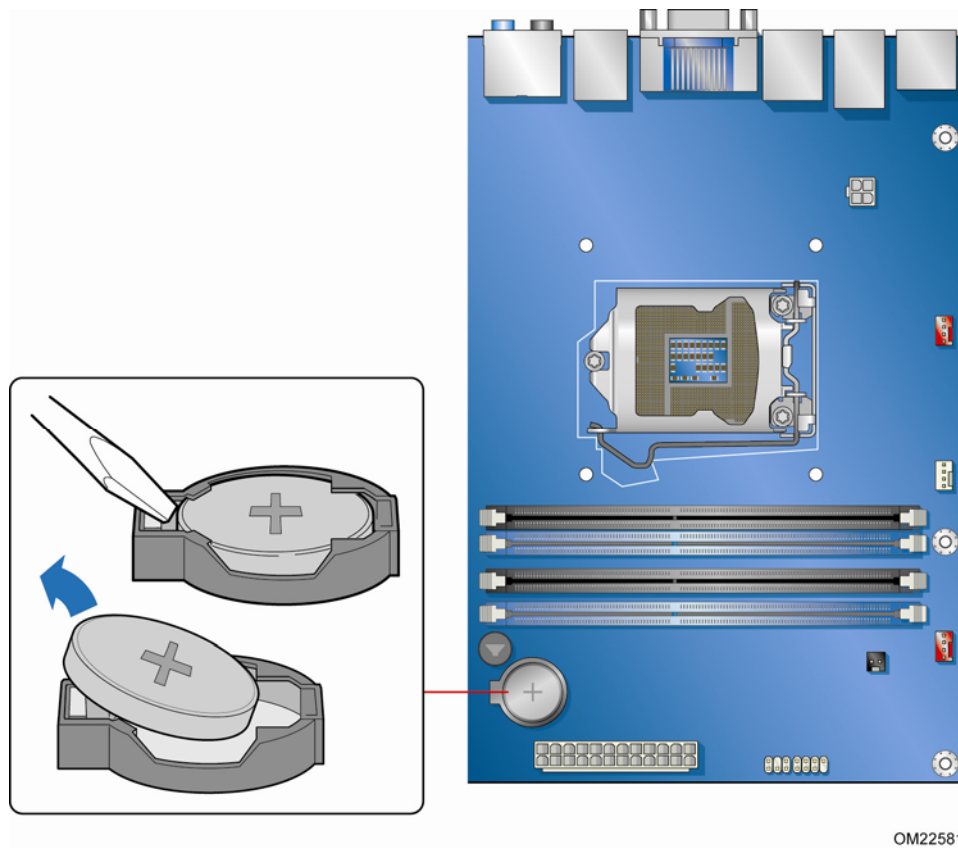

Figure 25. Removing the Battery
When the voltage drops below a certain level, the BIOS Setup program settings stored in CMOS RAM (for example, the date and time) might not be accurate. Replace the battery with an equivalent one. Figure 25 on page 59 shows the location of the battery.
4. Locate the battery on the board (see Figure 25).